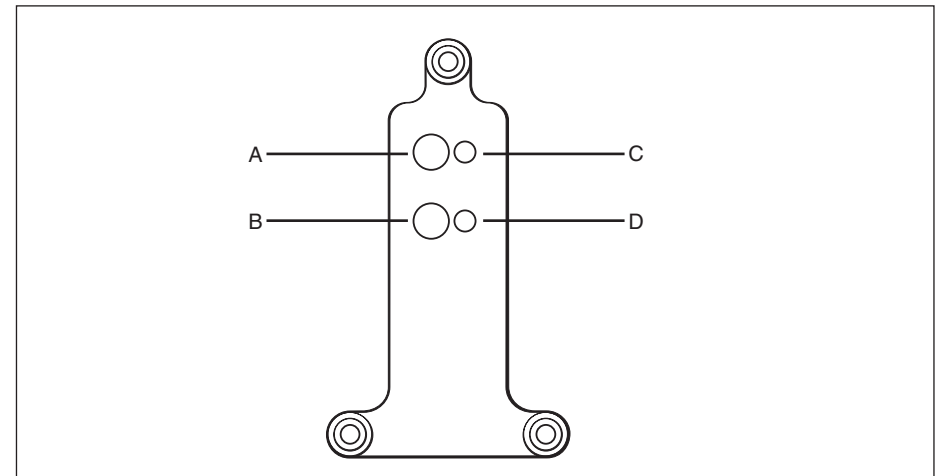

Figure 47 Alignment aid viewed towards chamber
- Referring to Figure 47, use the reference beam pitch and yaw controls to bring the reflected reference beam so that it passes through hole A in the alignment aid.